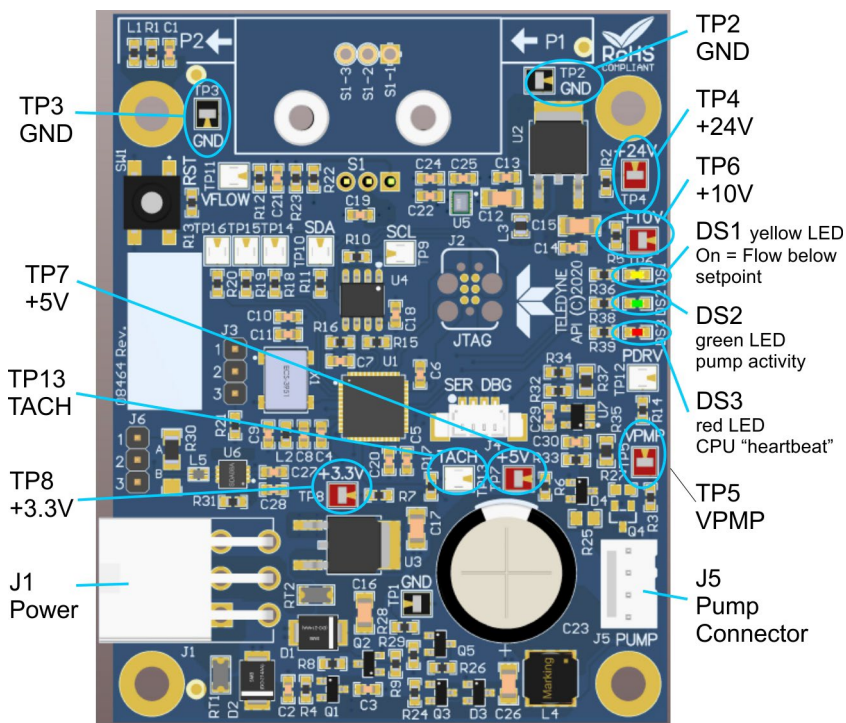
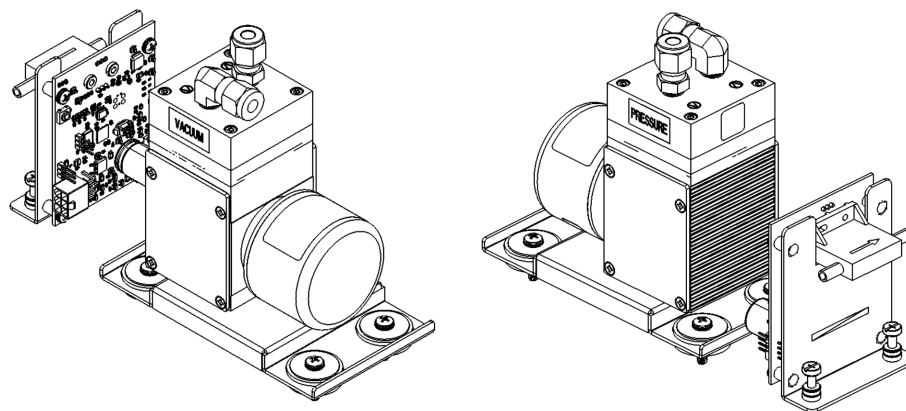

Figure 5-9. DC Pump Control Board LEDs
Figure 5-10. HD non-PID Controlled Pump
This is when the unit displays a SAMPLE FLOW Alert, or the SAMPLE FLOW function reports a zero or very low flow rate. The instrument has a controlled HD pump (Figure 5-10) which is controlled by the pump PCA (see Figure 5-9 for LED descriptions and Figure 5-13 for connectors).
1. Check that the communication/activity LEDs on the pump board (Figure 5-9) are illuminated and/or blinking. If not, check power to board via its test points.